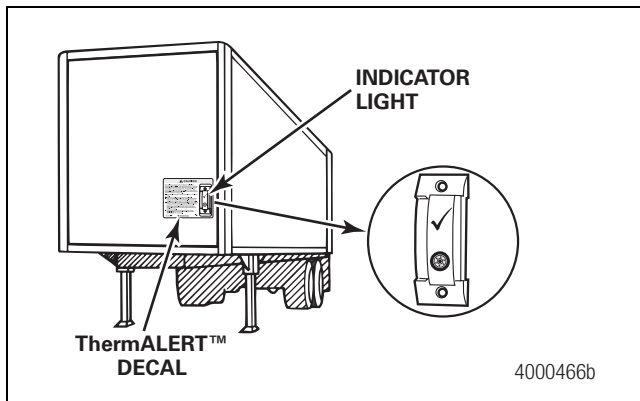

Figure 2.63
- Mount the indicator light vertically onto the roadside front of the trailer, approximately 30-inches (76 cm) from the bottom of the coupler and as close as possible to the outside of the trailer. The driver should be able to see the indicator light from the roadside rear view mirror. If your trailer is equipped with the MTIS ThermALERT™ system, install the ThermALERT™ decal as close as possible to the indicator light. Figure 2.63.